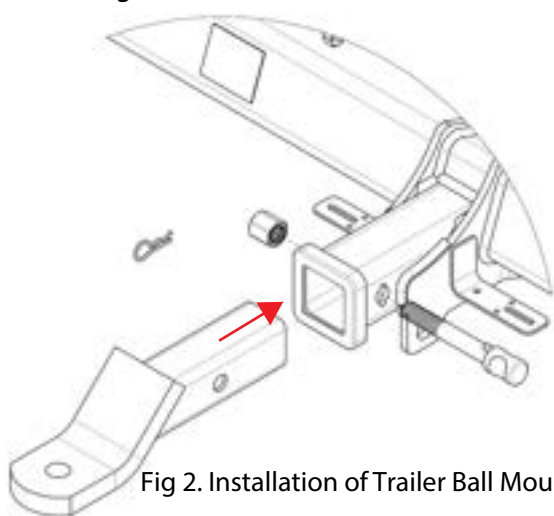

Fig 2. Installation of Trailer Ball Mount
STEP 1 Insert Trailer Ball Mount (TBM) into towbar HITCHBOX, aligning hole in TBM SHANK with hole in HITCHBOX (Fig 2).